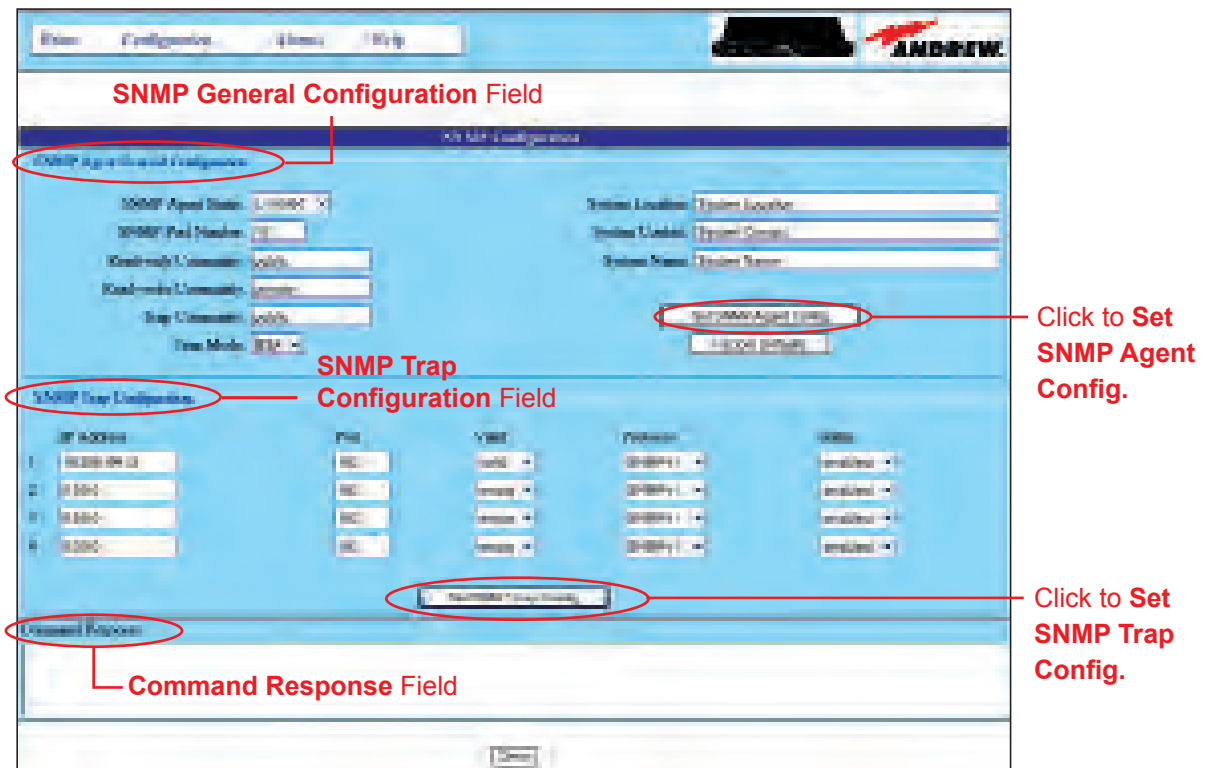

Figure 8-2. Configuring ATC300-1000/2000 Controller's SNMP Agent.
The SNMP Configuration page is divided into three sections: the SNMP Agent General Configuration, the SNMP Trap Configuration, and the Command Response field (Figure 8-2).
1. The **SNMP Trap Configuration** table (Figure 8-2) configures the controller to report traps for up to four SNMP managers. Typical examples for using a trap is to alert an SNMP manager that a controller has been installed at a new site or to show a new alarm condition has occurred.